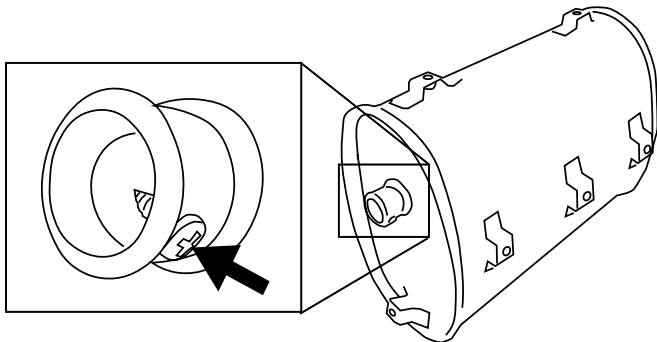

Figure 16: Remove spark arrestor
4. Once the cover is removed, locate the screw on the tip of the muffler and remove. Pull the spark arrestor out of the muffler. (see Figure 16).